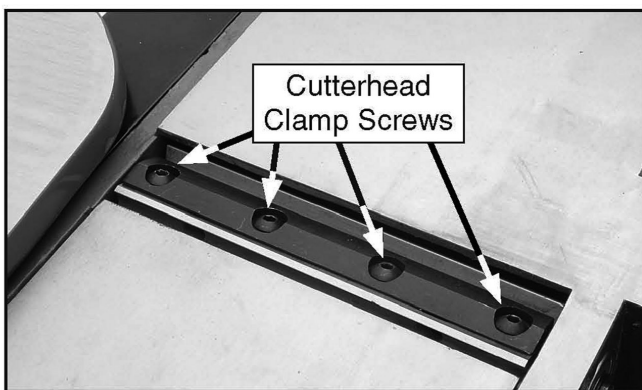

Figure 45. Cutterhead knife clamp screws.
3. Remove the four cutterhead clamp screws fastening the knife to cutterhead (see **Figure 45**). Carefully remove the knife and clamp from cutterhead.